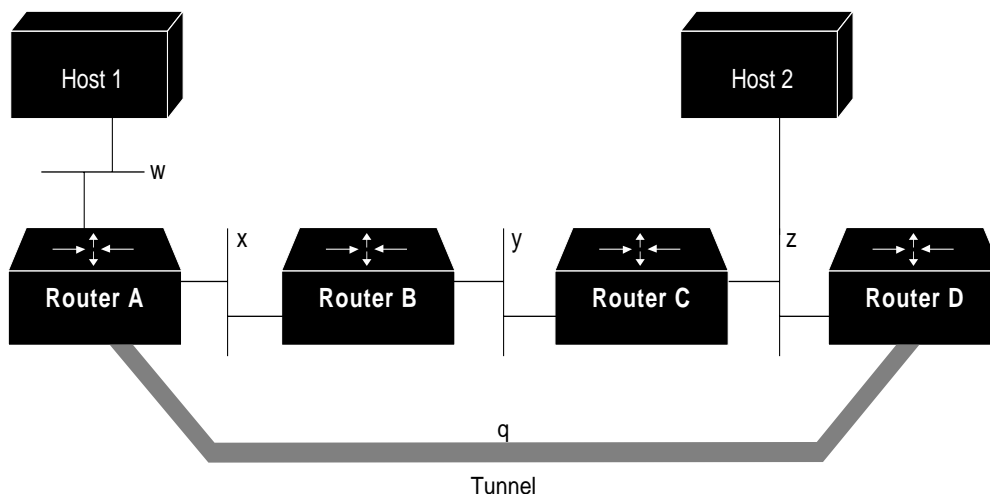

Figure 6-5 Tunnel Precautions: Hop Counts
- Routing protocols that make their decisions based solely on hop count will often prefer a tunnel over a multipoint real link. A tunnel may appear to be a one-hop, point-to-point link and have the lowest-cost path, but may actually cost more. For example, in the topology shown in Figure 6-5, packets from Host 1 will travel across networks w, q, and z to get to Host 2 instead of taking the path w, x, y, z because it “appears” shorter.